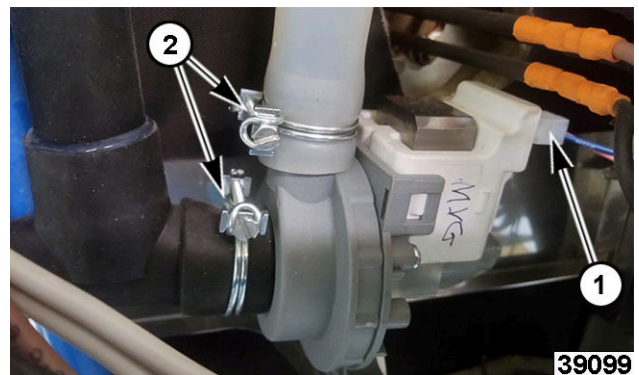

Fig. 56
2. Note and disconnect wiring connectors (1, Fig. 56).
3. Note and disconnect hoses (2, Fig. 56).